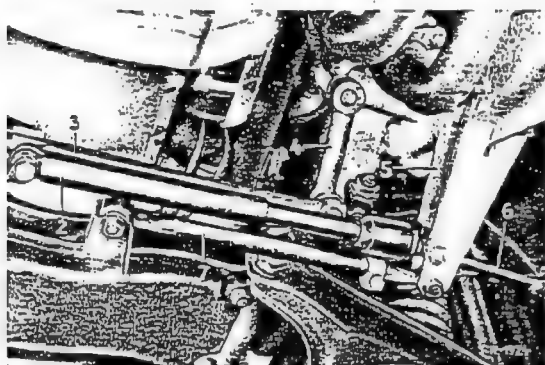

Fig. 46-10/1
1. Loosen and remove the hexagon screw holding the steering shock-absorber to the bracket (5) on the chassis base panel and also the hexagon screw the steering shock-absorber to fastening the center tie-rod (3) (Fig. 46-10/1).